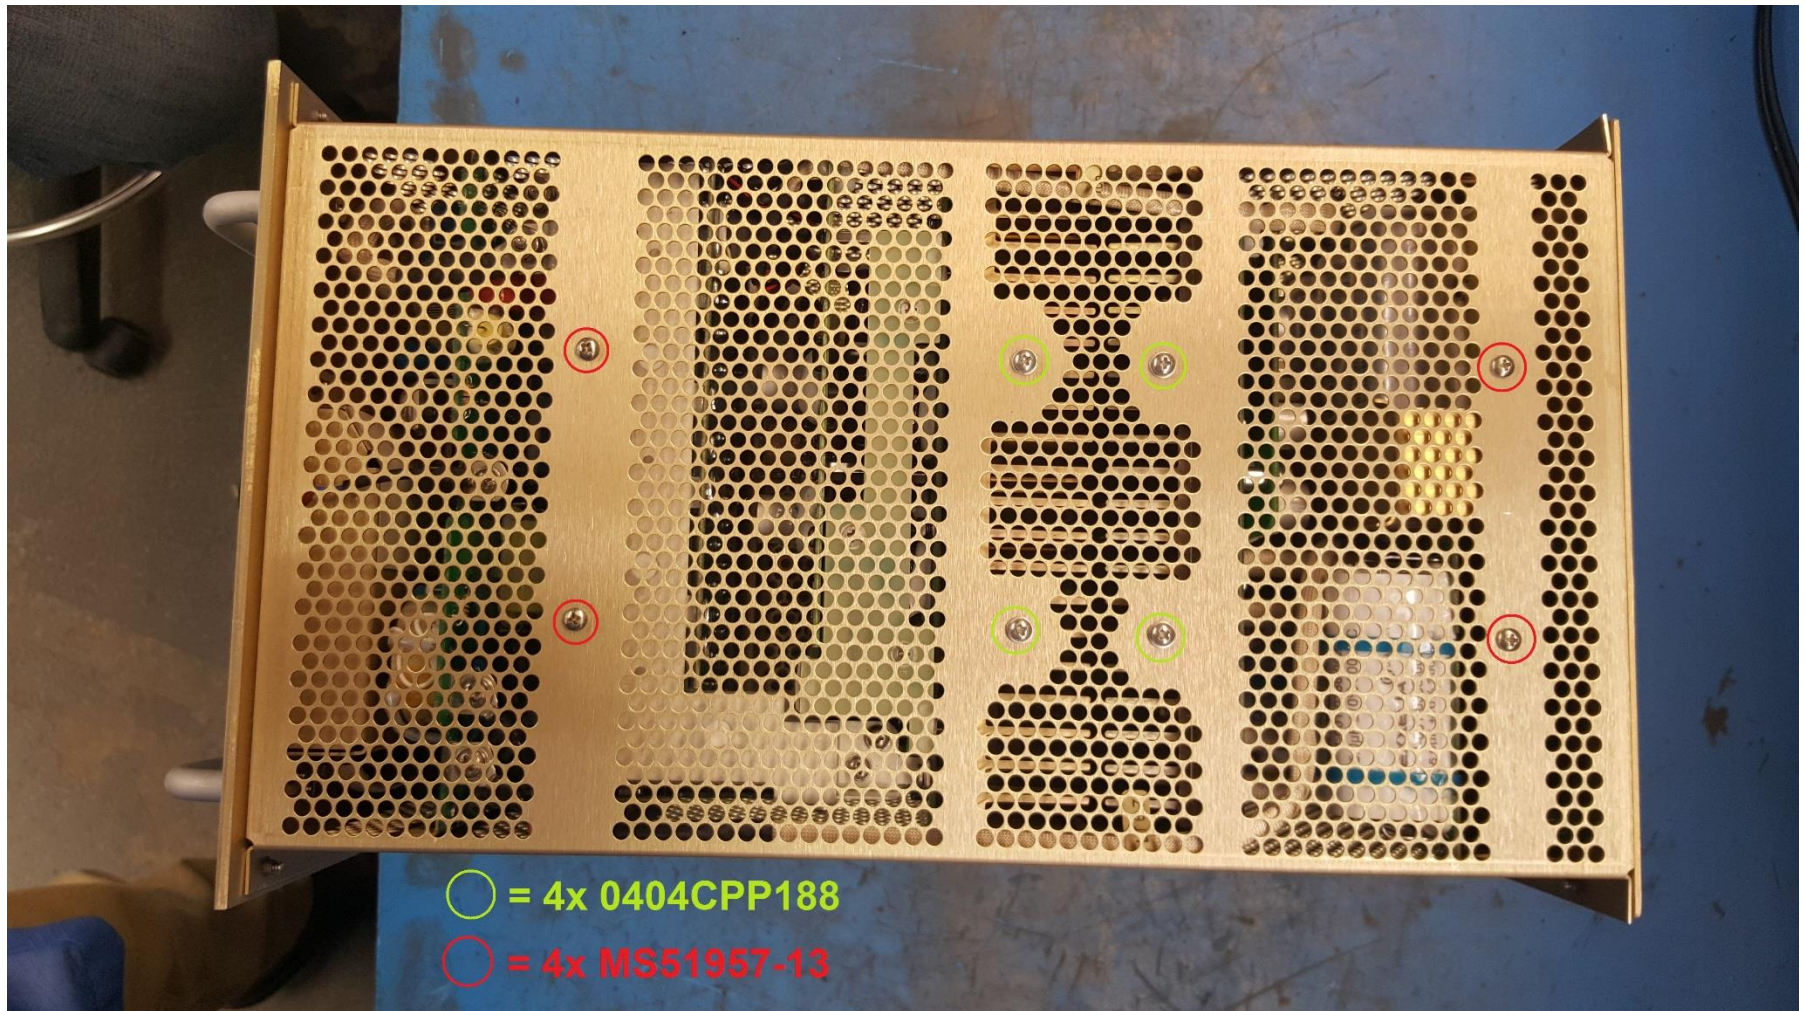

**Figure 2 – Right Side of Unit (Top Cover) Screw Locations**
2. Remove (22) screws (8x 0404CPP188, 14x MS51957-13) from the right side of the top cover. (Figure 2).
33. Insert (22) screws (8x 0404CPP188, 15x MS51957-13) into the right side of the top cover. (Figure 2).